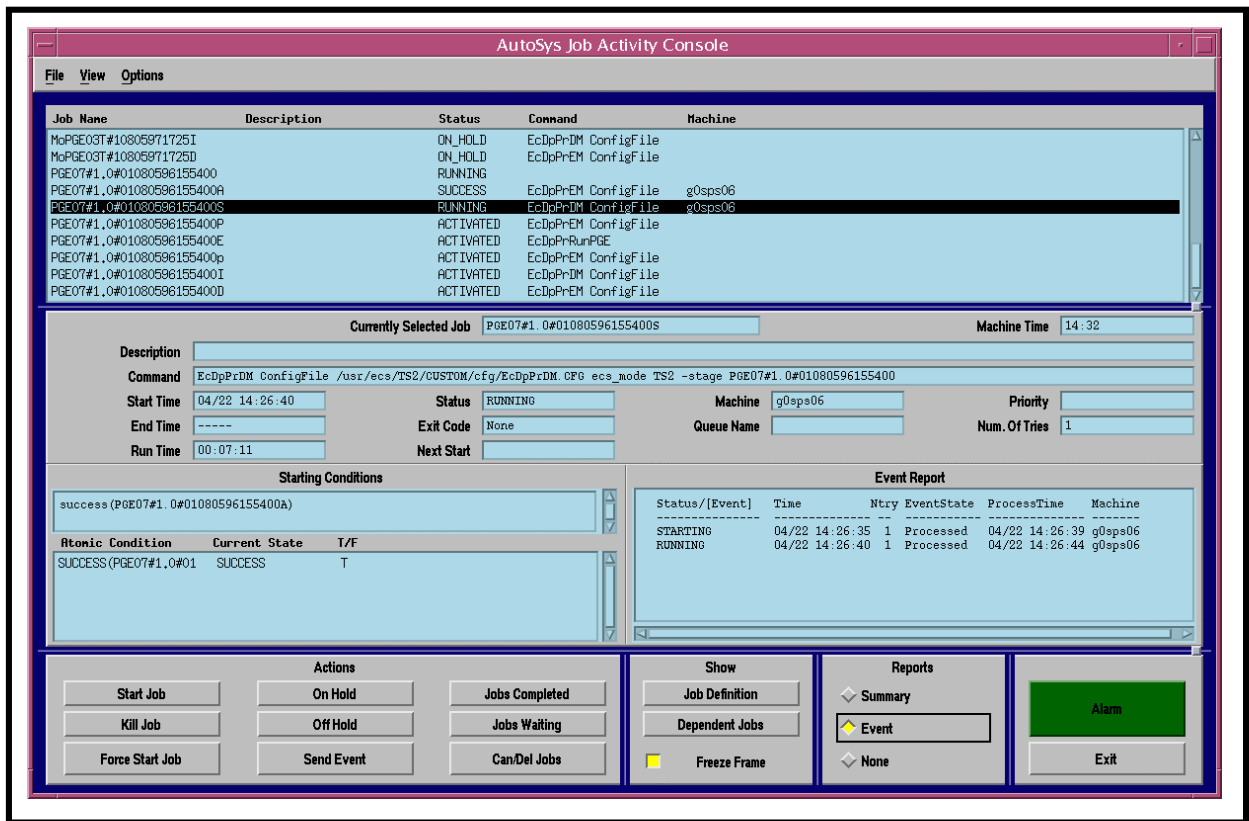

Figure 45. Job Activity Console (Ops Console) GUI
- The **Job Activity Console** GUI, also known as the **Ops Console** GUI, (Figure 45) is displayed.